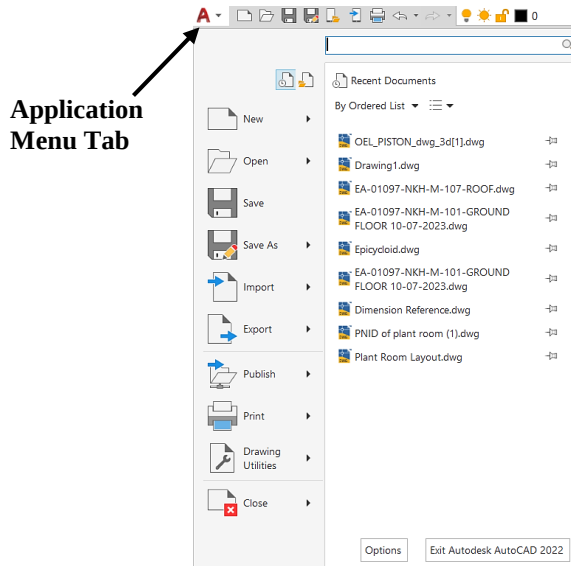

Fig. 5.1
- 2 Once you click on acad.dwt, a new drawing template will open. The first thing to notice in the top-left corner of the window is the **Application Menu tab**, marked with a large red “A.” Clicking this tab opens a drop-down menu that provides access to your most recently created drawings, along with standard program options, as shown in Fig. 5.1. Although the Application Menu tab may appear slightly different in older versions, it is always located in the top-left corner of the screen.